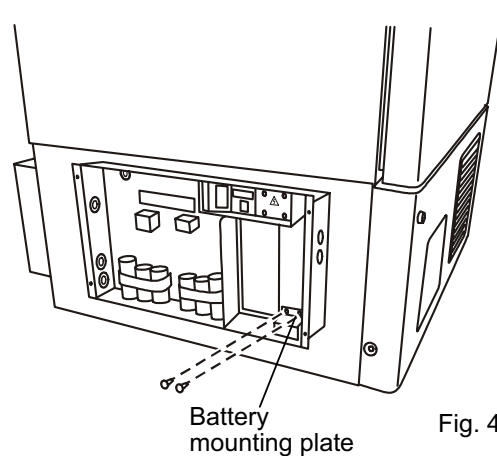

Fig. 4
4. Disconnect the battery connector and remove 2 screws fixing the battery mounting plate. (Fig. 4)
4. As shown in the Fig. 4, pass the recorder sensor through the sensor guide pipe from the front to the back. The sensor guide pipe is provided on the upper left side of the base compartment.